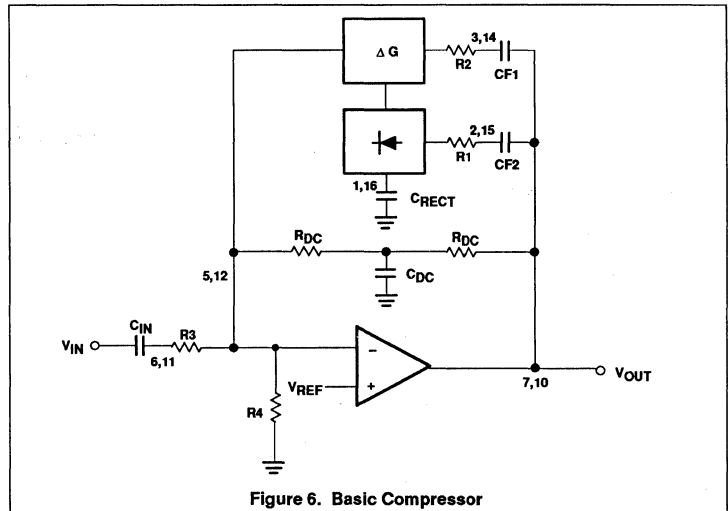

Figure 6. Basic Compressor
- 1) DC bias the output half way between the supply and ground to get maximum headroom. The circuit in Figure 6 is designed around a system supply of 6V, thus the output DC level should be 3V.